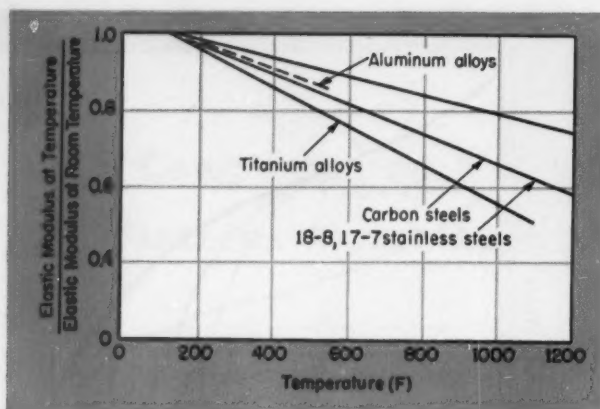

Fig. 2—Variation in elastic modulus with temperature for typical airframe alloys. The modulus is taken as the slope of the stress-strain curve at the origin.
2. Burst-pressure calculations must be based on the weakest point in the pipe. This weak spot is usually the root diameter of the pipe thread. Therefore, the effective wall thickness of a pipe is decreased and considerable pipe material is virtually unused, Fig. 2.
At room temperature and elevated temperature the modulus is nearly constant for each alloy system, Fig. 2. However, at elevated temperatures, the value of the modulus of a particular alloy depends